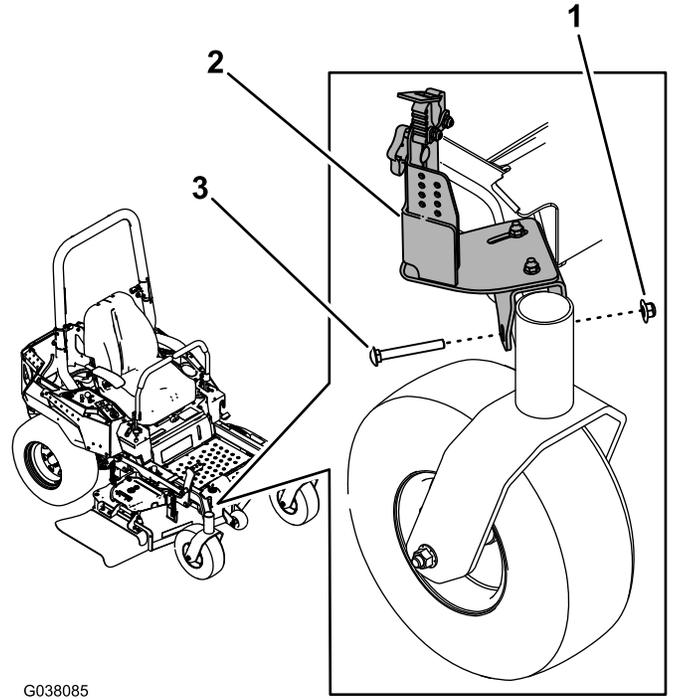

Figure 8
3. Install the front mount assembly over the frame, near the right caster wheel, using the wide-flange nut (3/8 inch) and carriage bolt (3/8 x 3 inches) as shown in Figure 8.